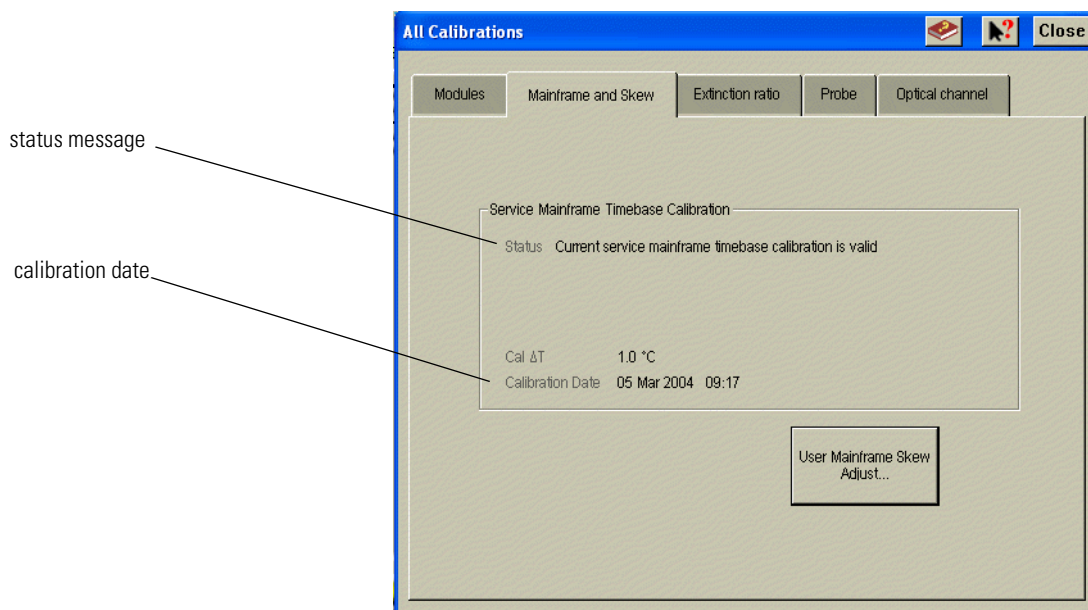

Figure 1-24. Mainframe timebase calibration status and date
- a On **Calibrate** menu, click **All Calibrations**. Click the **Mainframe and Skew** tab. Record the calibration date for use later in this procedure. See Figure 1-24.
- g** Confirm that the displayed calibration date is the same date that you recorded in Step 2. Verify that the displayed status message reads “Current service mainframe timebase calibration is valid.” See Figure 1-24 on page 1-33.